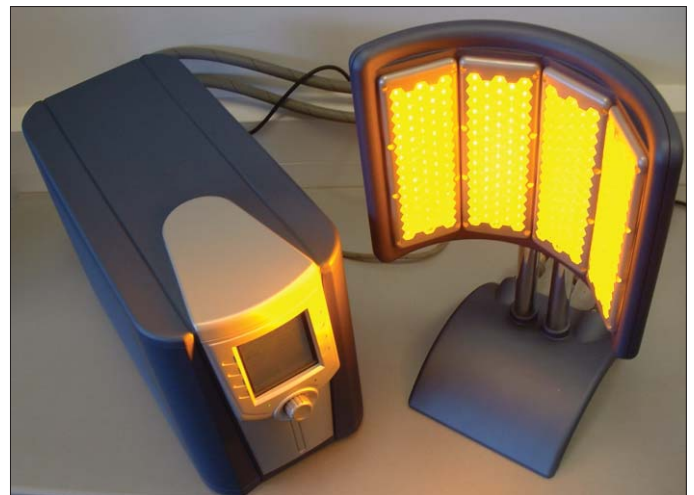

Fig. 4. Enfis medical MW-LED Light Engine system for skin treatments.
- light based medical treatments – see facial treatment device as depicted in figure 4